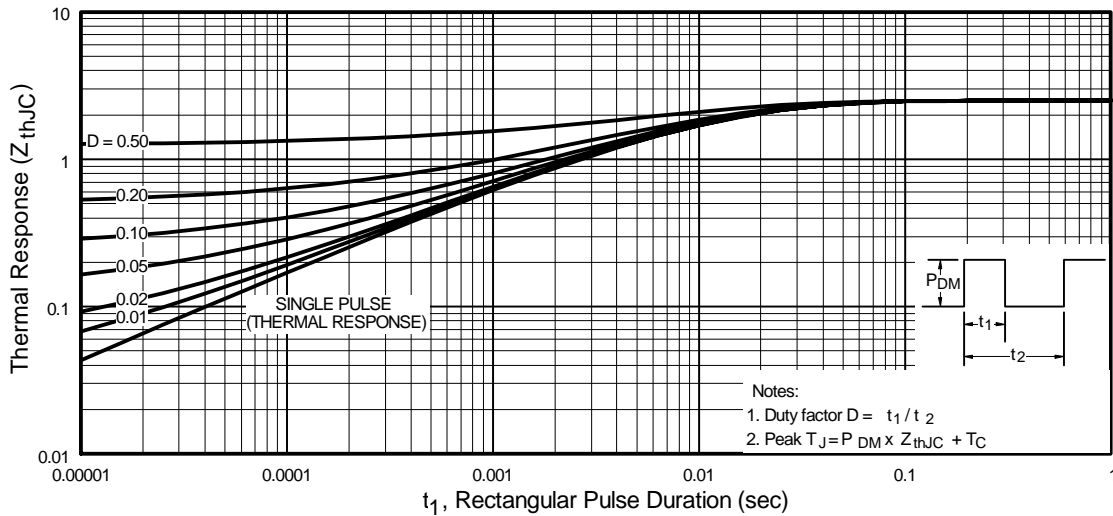

Fig 11. Maximum Effective Transient Thermal Impedance, Junction-to-Case
- ① Repetitive rating; pulse width limited by max. junction temperature. (See fig. 11)
- ② Starting T_J = 25°C, L = 57mH